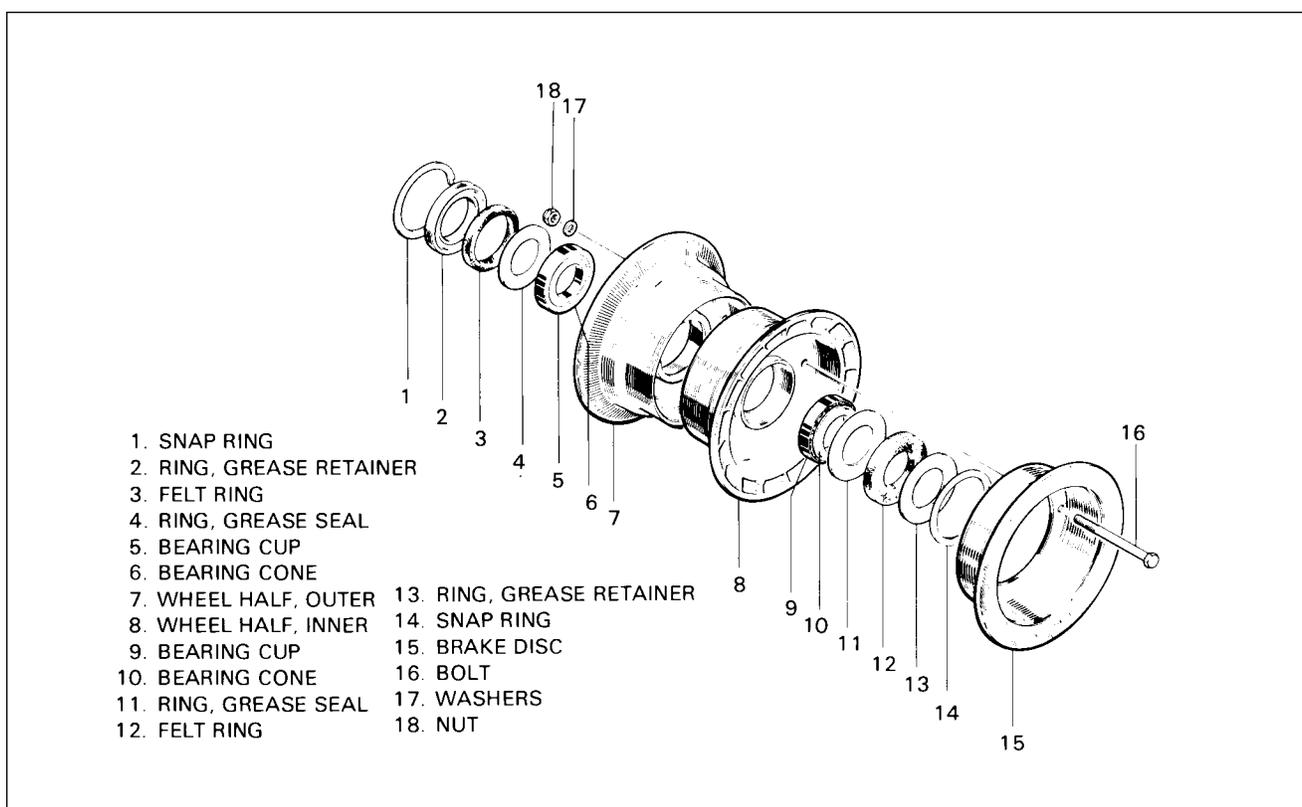

Figure 32-13. Main Wheel Assembly
**REMOVAL AND DISASSEMBLY OF MAIN WHEEL.** (Refer to Figure 32-13.)
**ASSEMBLY AND INSTALLATION OF MAIN WHEEL.** (Refer to Figure 32-13.)